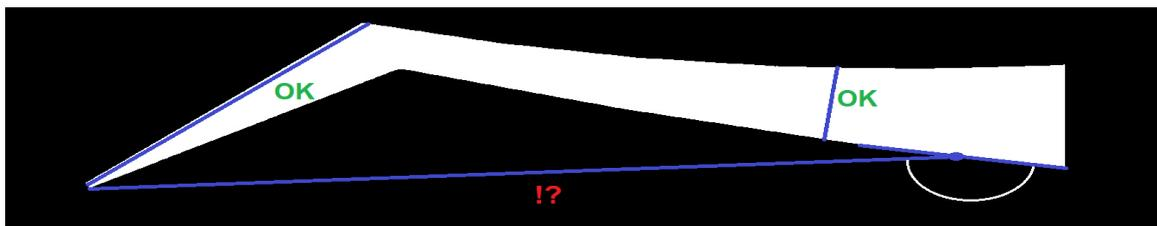

Fig. 5.1. Measurements with predicted accuracy and measurements of uncertain accuracy.
- 5.14. Measuring the distance from a point to a point on the contour of an object is similar to measuring with a caliper. The measurement accuracy is up to  $\pm 0.08$  mm for typical measurements. A typical measurement for installation is measurement of a straight line segment that forms angles in the range from  $65$  to  $115^\circ$  (conditionally close to right angles) with tangents at contour points. Indicators of accuracy are reduced as the deviation from the conditionally right angles to the tangents of the points of the contour. See figure 5.1.